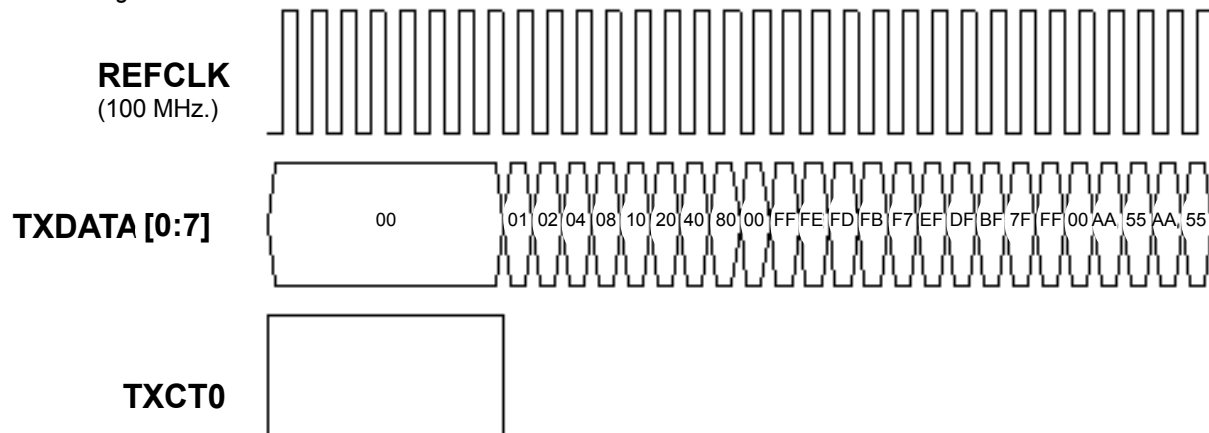

Figure 15. Generated Clock, Data and Control Signal from DG2020
1. Load the file CYP15G0101_EVAL.PDA into the DG2020. If you are using your own data generator, use a similar waveform as shown in *Figure 15*.
14. Start transmitting the data from the DG2020. The format of the clock and the data should be as shown in *Figure 15* as seen below. Make sure that the data is generated in repeat mode.